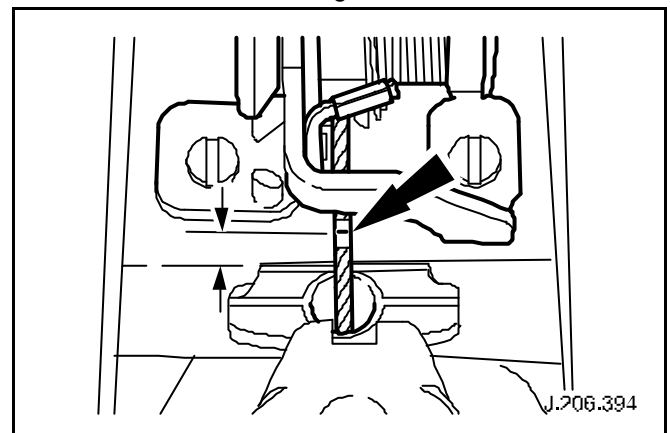

Fig. 4
- 9 Apply parking brake lever one notch and measure distance traveled. (See Fig. 4)